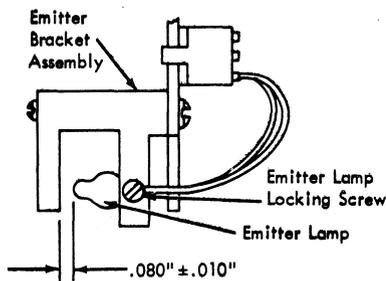

Figure 4-14. Read Emitter Lamp Adjustment
3. Maintain $.080'' \pm .010''$ between tip of lamp and cell mounting bracket (Figure 4-14).